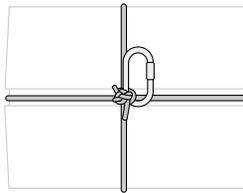

Figure 2
- If the cargo needs to be delivered for several times, use a runway type carabiner ( $\geq 8$  mm diameter) or a steel ring ( $\geq 5$  mm diameter) and fix to the end of the rope, as shown in Figures 2 and 3.